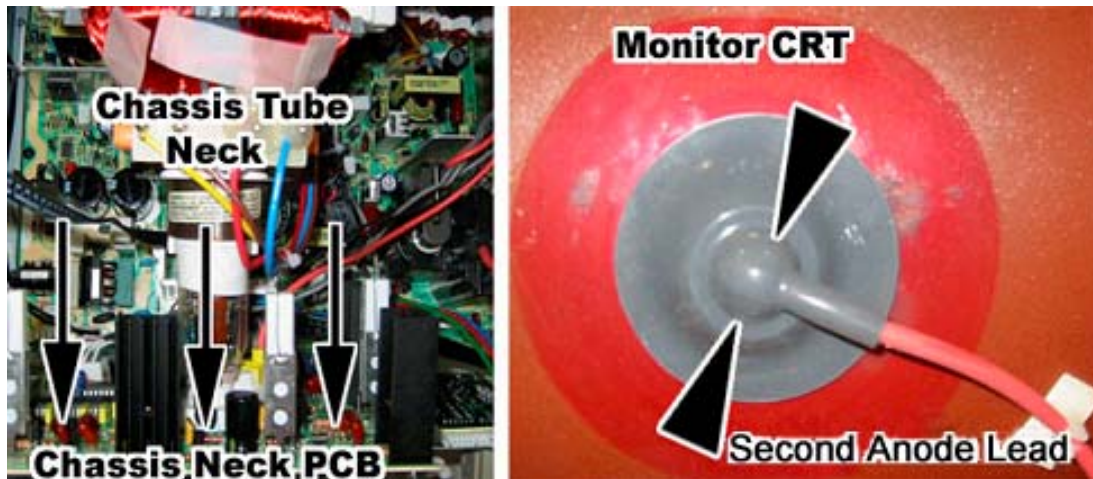

Figure 10. *Disconnecting the Chassis Neck PCB and Second Anode Lead*
5. Disconnect the second anode lead that connects to the CRT just above the Chassis Tube. Be very careful as the second anode lead can be charged with a VERY HIGH VOLTAGE even when powered OFF. Pinch the gray rubber flange and slightly push in to un-hook the metal prongs that hold the second anode lead to the CRT, shown by the arrows in Figure 10.